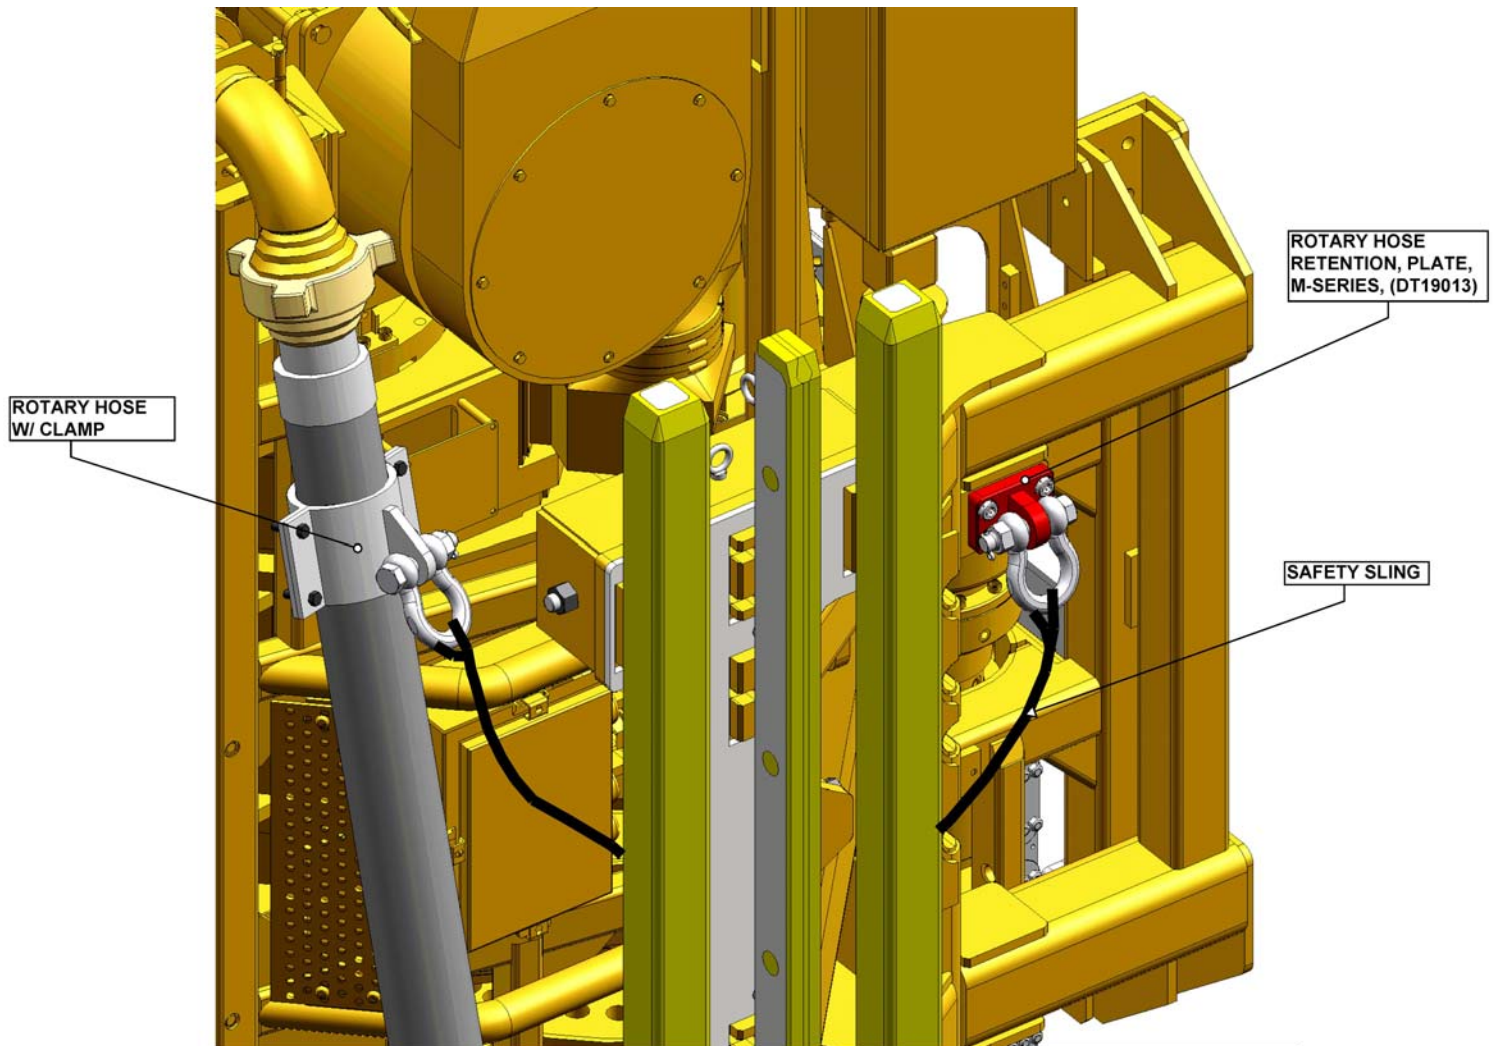

Fig. 1
1. Remove existing (4) $\frac{3}{4}$ "-10UNC capscrews from M-rig Guide Frame and replace with Rotary Hose Retention Kit for M-series (AY16645) which includes Rotary Hose Retention Plate (DT19013) with longer capscrews (4) $\frac{3}{4}$ "-10UNC x 3 $\frac{1}{2}$ " (SH-0750NC-0350-W-GR8) and (4) Nordloc washers (LW-0750-NLS). Rotary Hose Retention Plate (DT19013) is installed on top of the existing M-rig Guide Frame. See Fig. 1.
2. Torque (4) $\frac{3}{4}$ -10UNC x 3 $\frac{1}{2}$ " (SH-0750NC-0350-W-GR8) capscrews to 350 ft-lbs and safety wire with (M21-2000-010) and (M19-3006-010).
4. Install other end of sling to a shackle and attach on the Rotary Hose Clamp. Tie-wrap slings to eliminate excess slack with (E03-2000-010). Final assembly should be as shown in Fig. 1.